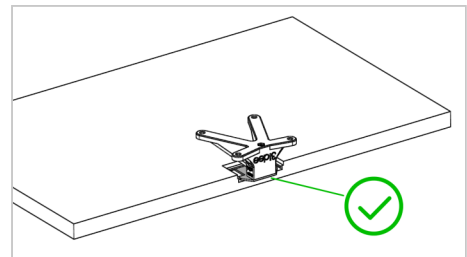

Figure 2
**To remove:** press into the square recess with a pointed object and carefully pull out the adapter. (Figure 2)